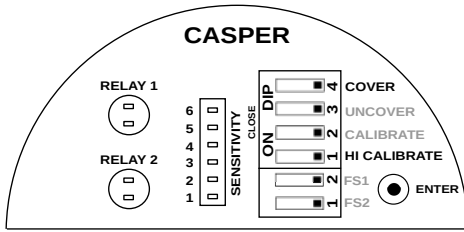

Figure 13: Saving Cover Delay for Relay 2
- Delay is entered, but not saved. To save and test the Cover Delay, set the COVER and HI CALIB switch back to OPEN position as shown in Figure 13. The STATUS LED of Relay 1 will come back to its original position.